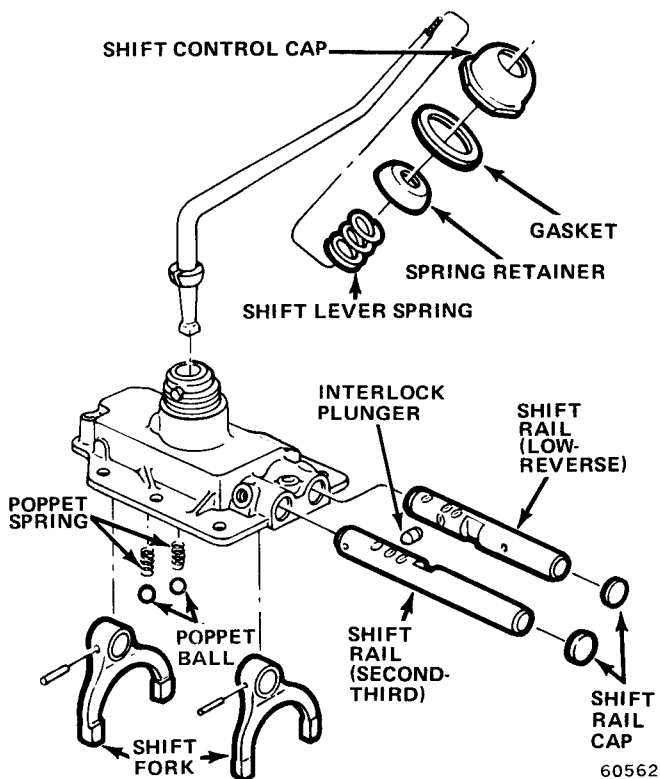

Fig. 6-17 Shift Control Housing—CJ Models
- (1) Remove backup lamp switch and transmission controlled spark switch (TCS) if equipped.
- (2) Unthread shift control housing cap and remove cap, gasket, spring retainer, and shift lever spring as assembly (fig. 6-17).
- (3) Invert housing and mount in vise. Clamp housing at shift lever tower. Do not overtighten.
- (4) Move Second-Third shift rail to rear of housing, rotate shift fork toward First-Reverse rail until roll pin is accessible. Drive roll pin out of fork and rail with pin punch, and remove shift fork and roll pin.
- (5) Remove Second-Third shift rail using brass drift or hammer. Catch shift rail plug as rail drives it out of housing. Do not lose poppet ball during removal of shift rail. Cover shift and poppet ball holes in housing with cloth or tape before removing shift rail. Mark location of shift rail for assembly reference.
- (6) Rotate First-Reverse shift fork away from notch in housing until roll pin is accessible. Drive roll pin out of fork and rail using pin punch, and remove shift fork and roll pin.
- (7) Remove First-Reverse shift rail using brass drift or hammer. Catch shift rail plug as rail drives it out of housing. Do not lose poppet ball during removal of shift rail. Cover shift tower and poppet ball holes in housing with cloth or tape before removing shift rail. Mark location of shift rail for assembly reference.
- (8) Remove poppet balls, springs, and interlock plunger from housing.